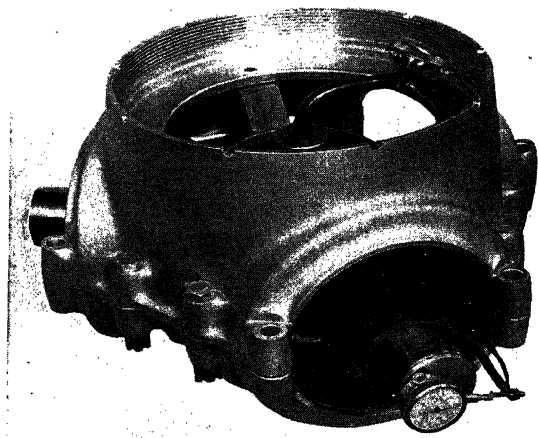

FIG. 32.—Using indicator to check barrel and spider alignment.
8. With an indicator (Fig. 32) check the concentricity of an arbor through the splined sleeve with the inside surface of the front barrel half just forward of the dome shelf. The eccentricity must not exceed 0.003 in. full indicator reading.